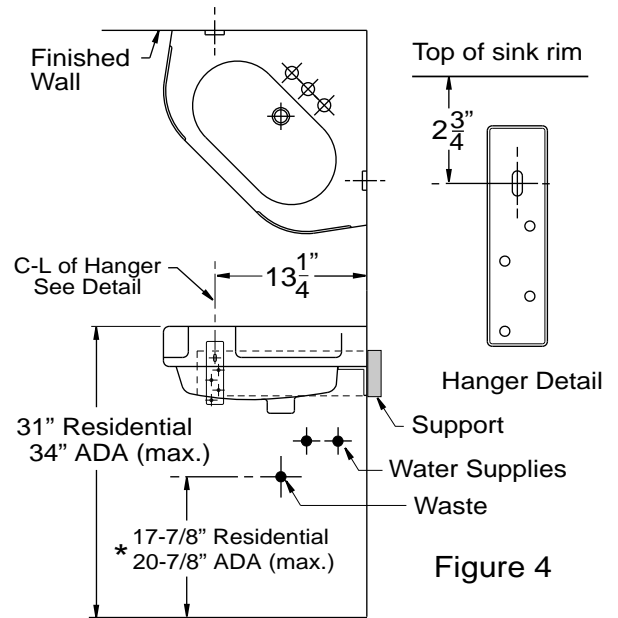

Figure 4
7 The 1373 CORNATE corner lavatory is hung from the wall with two (2) smaller hangers. As with other lavatories, there must be suitable support behind the finished wall for the hanger screws. As illustrated in Figure 4 the lavatory is hung in the corner with one hanger on each wall. Once the proper hanger height above the floor has been determined, fasten each hanger to the supports with two lag screws per hanger.